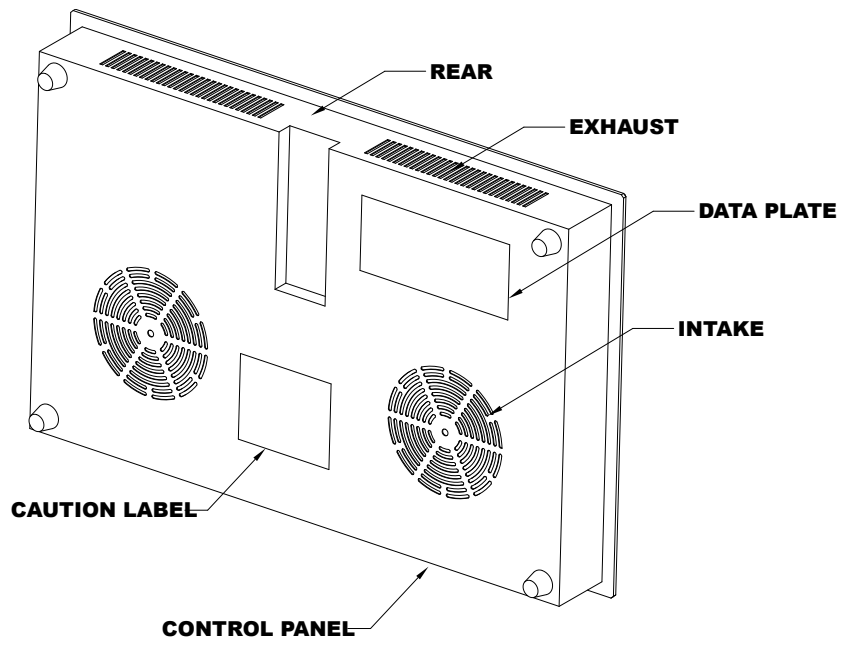

Figure 2
- NOTE:** For proper air circulation, allow at least 3" of clearance from the bottom of the induction cooker to any shelving or storage. The underside of the countertop should not be closed off from the cabinetry underneath for better air flow. **Figure 2** is an illustration showing intake and exhaust locations. Be sure not to block either area.